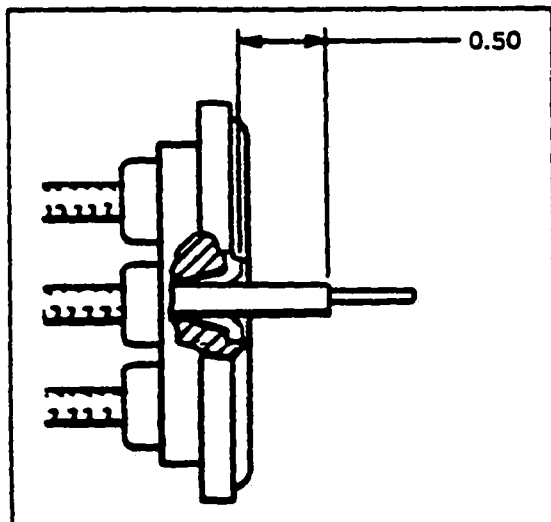

Figure 8-23. Measuring Wire From Top of Ferrule
12. Measure 1/2 inch from tapered ferrule and strip remaining insulation from wire. (Refer to Figure 8-23.)